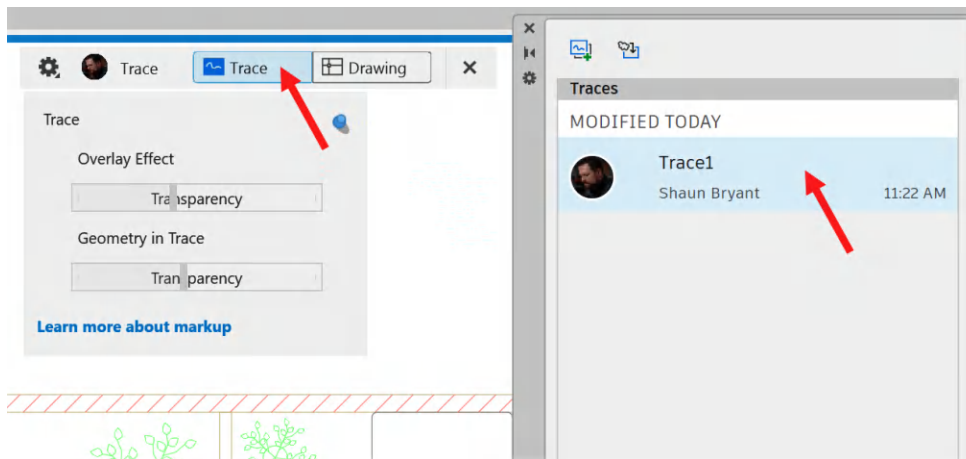

Figure 16.6: AutoCAD in trace mode with a default trace
8. After clicking **New Trace**, you will go into trace mode, where the drawing displays any traces associated with it. You don't have any traces, so AutoCAD will add a default trace to the **Traces Palette**, as shown in *Figure 16.6*. In this case, it is called **Trace1**.